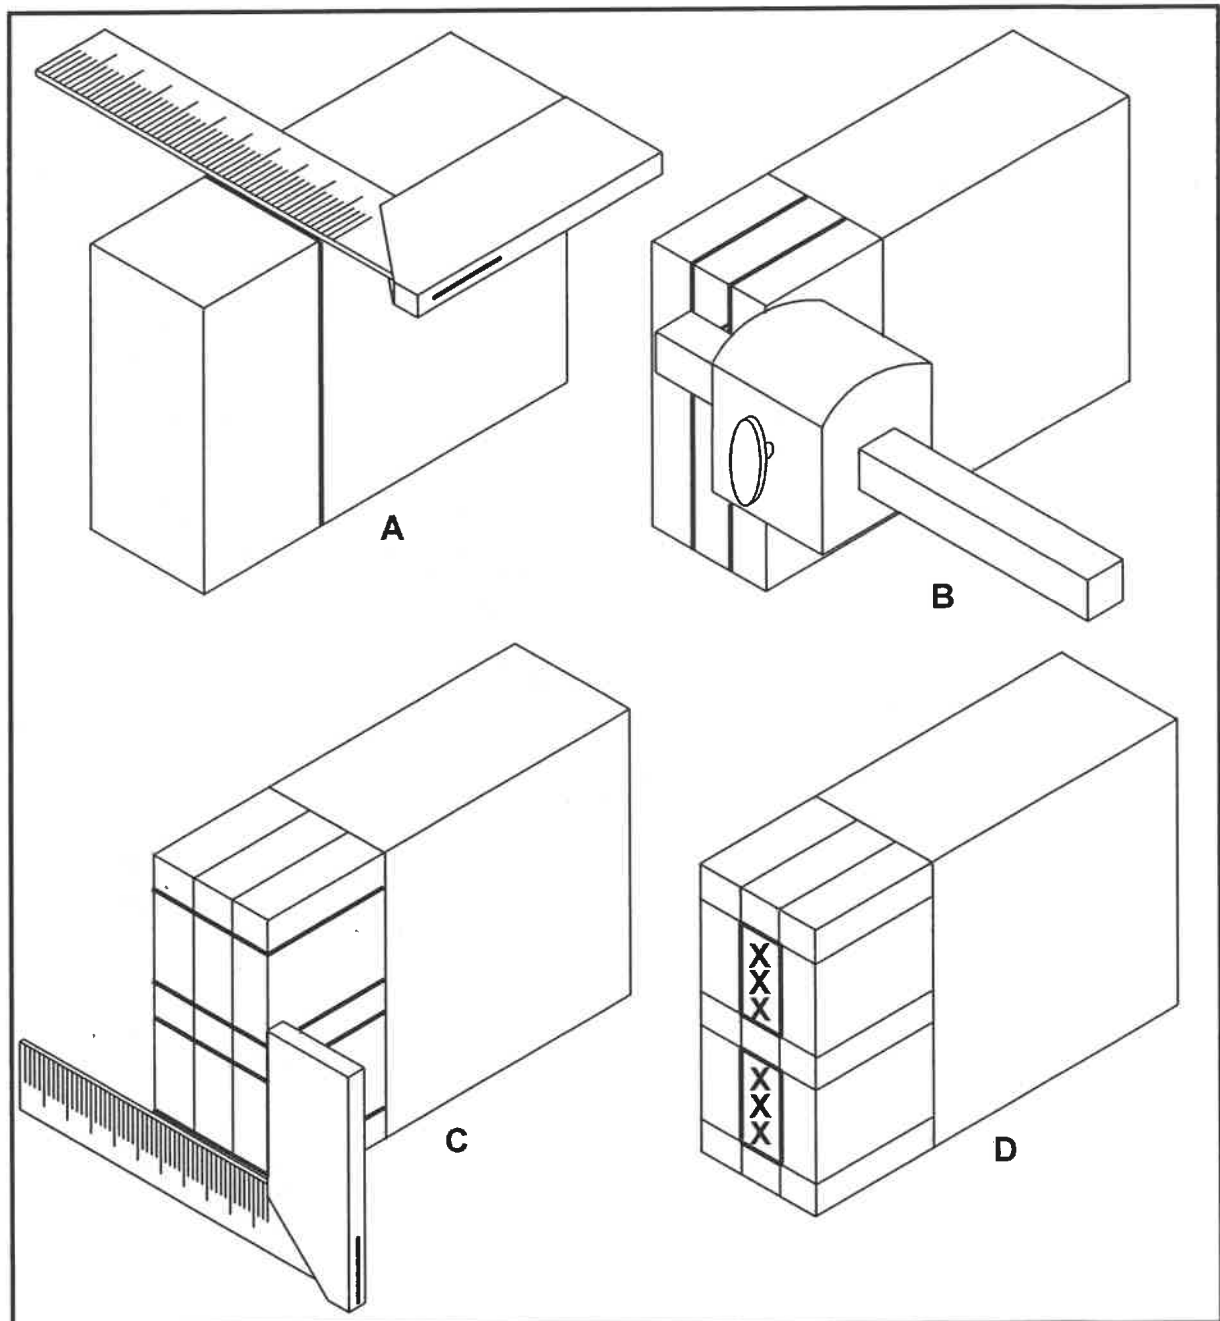

FIGURE 6.2
- 6.2 FIGURE 6.2 below shows the steps for marking and cutting a twin mortise and tenon joint for the bottom rail of a door. (4)